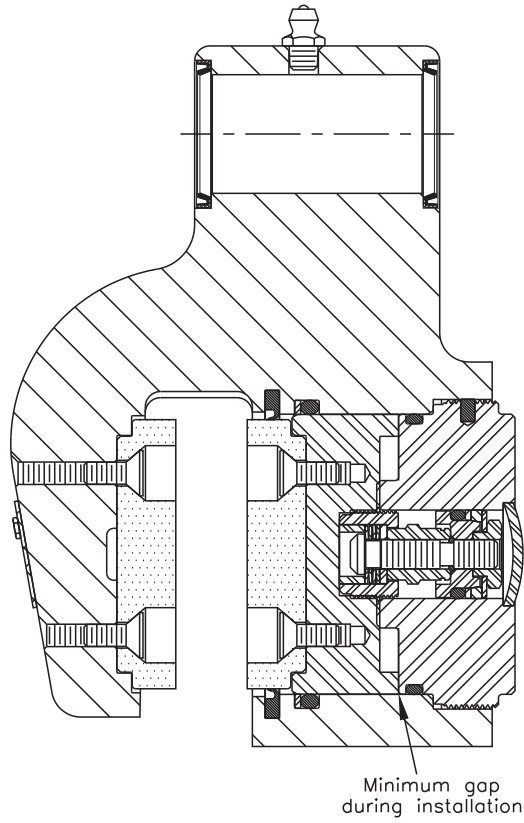

FIGURE 5
(Refer to Figures 5 and 6)
18. Install new seal (20) into the groove of housing (24) bore through the disc clearance slot end of the bore. Note the direction of seal (20).
19. Install new lining (22) in housing (24) using new screws (21). Torque screws (21) 2.7-3.4 N·m (24-30 lb·in).
20. Install new compensator assembly (4) in piston (15). Torque compensator assembly 19.0-24.4 N·m (14-18 lb·ft). **DO NOT TIGHTEN NUT (8) at this point.**
21. Install new lining (16) on piston (15) using new screws (17). Torque screws (17) 2.7-3.4 N·m (24-30 lb·in).
22. Lubricate o-ring (12) on compensator assembly with clean type fluid used in the system. Assemble piston assembly (3) to end plug (6) by carefully inserting compensator assembly (4) into end plug (6) bore. Compress assembly (1) so there is a minimum gap as shown in Figure 5 on page 3. Remove nut (8) and apply Loctite 262 or equivalent to the threads. Reinstall nut (8) and torque 2.8-4.5 N·m (25-40 lb·in).
23. Place assembly (1) on a flat surface with the spanner wrench holes facing upward. Install new plug (5).
25. Lightly lubricate the housing bore and piston (15) with clean system fluid. Carefully reinstall assembly (1) into housing (24) bore keeping lining face free of system fluid and contamination. Tighten end plug (6) with a spanner wrench until it bottoms out on housing (24) and torque 74.6-88.1 N·m (55-65 lb·ft). **NOTE: Assembly (1) must remain compressed with a minimum gap. See Figure 5 on page 3.**
26. Install new bleeder screw (25) in housing (24) and finger tighten.
27. Carefully install two new seals (23) in housing (24). Note direction of seals (23). Cup side of seals (23) face outward. **DO NOT LUBRICATE seals (23).**
16. Install new seal (20) into the groove of housing (24) bore through the disc clearance slot end of the bore. Note the direction of seal (20).
17. Install new o-ring (12), washer (11), wedge ring (10), and belleville spring (9) on compensator (13). **NOTE: Make sure wedge ring (10) and belleville spring (9) are installed in the proper direction.**
18. Apply Loctite 262 or equivalent to the threads of nut (8) and install on compensator assembly (4). DO NOT TIGHTEN nut (8) at this point.
19. Lubricate o-ring (12) on compensator assembly with clean type fluid used in the system. Assemble piston assembly (3) to end plug (6) by carefully inserting compensator assembly (4) into end plug (6) bore. Compress assembly (1) so there is a minimum gap as shown in Figure 5 on page 3. Torque nut (8) 2.8-4.5 N·m (25-40 lb·in).
20. Place assembly (1) on a flat surface with spanner wrench holes facing upward. Install new plug (5).
22. Lightly lubricate the housing bore and piston (15) with clean system fluid. Carefully reinstall assembly (1) into housing (24) bore keeping lining face free of system fluid and contamination. Tighten end plug (6) with a spanner wrench until it bottoms out on housing (24) and torque 74.6-88.1 N·m (55-65 lb·ft). **NOTE: Assembly (1) must remain compressed with a minimum gap. See Figure 5 on page 3.**
23. Install new bleeder screw (25) in housing (24) and finger tighten.
24. Carefully install two new seals (23) in housing (24). Note direction of seals (23). Cup side of seals (23) face outward. DO NOT LUBRICATE seals (23).